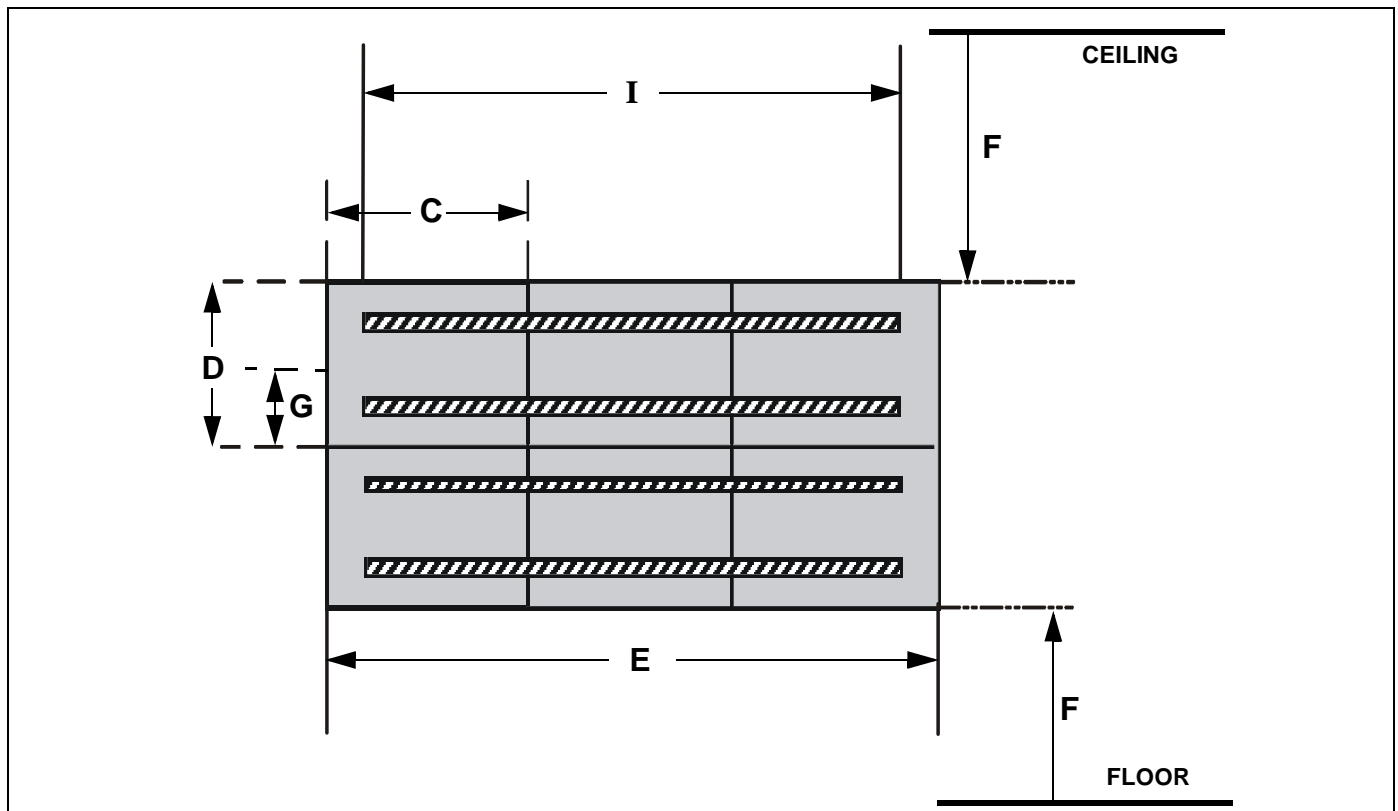

Figure 1
1. Mark distance **(F)** from floor to desired location for **bottom** of display **OR** from ceiling to desired location for **top** of display (if installing top row first). (See Figure 1) and (See Figure 5)
2. Mark distance **(G)** from bottom of display (or top of display) to center line of display. (See Figure 1) and (See Figure 5)
8. **(LVS1U only)** Measure over **(C)** (width of display) from center of first installed rail, level and mark location of adjacent rail. (See Figure 1) and (See Figure 5)
10. Attach upper rails (V) using **Fastener Information**. (See Table 2)
11. Measure up from attached rails the distance **(D)** and mark for next row of rails (V). (See Figure 1) and (See Figure 5)
13. Repeat Step 11 for any remaining rows of rails (V).